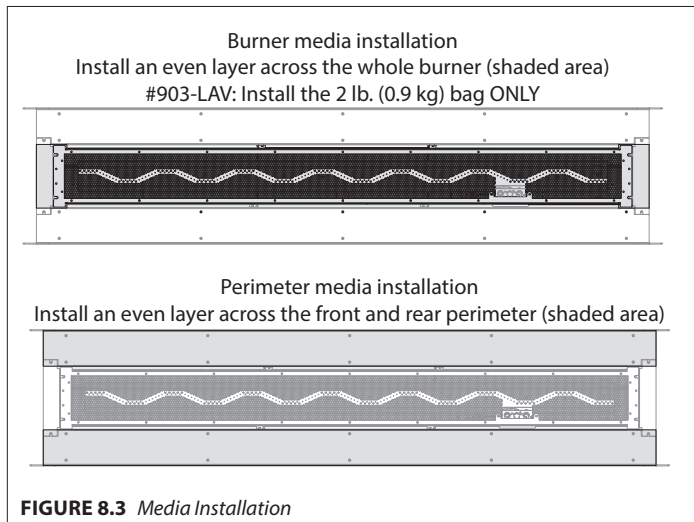

FIGURE 8.3 Media Installation
1. Install an even layer of your chosen media across the whole burner. See Figure 8.3 below.
1. Install an even layer of media across the front and rear perimeter. See Figure 8.3 below.